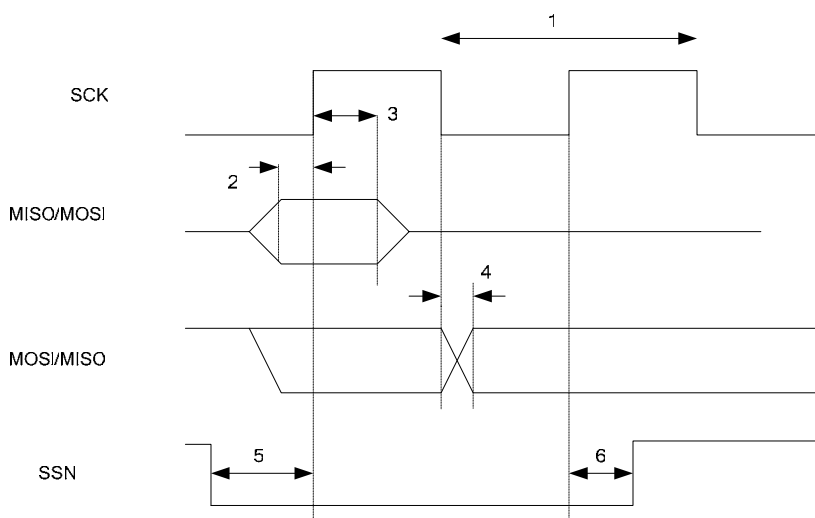

Figure 2: SPI AC Characteristics
| SCK period | | See section 13.13.3 | | ns | Master. See item 1 Figure 2 |
| SSN low to SCK | 2*t _{SYSCLK} | | | | See item 5 Figure 2 |
| SCK to SSN high | 30 | | | ns | See item 6 Figure 2 |
| MISO setup | 10 | | | ns | Master. See item 2 Figure 2 |
| MISO hold | 10 | | | ns | Master. See item 3 Figure 2 |
| SCK to MOSI | | | 25 | ns | Master. See item 4 Figure 2, load = 10 pF |
| SCK period | 100 | | | ns | Slave. See item 1 Figure 2 |
| MOSI setup | 10 | | | ns | Slave. See item 2 Figure 2 |
| MOSI hold | 10 | | | ns | Slave. See item 3 Figure 2 |
| SCK to MISO | | | 25 | ns | Slave. See item 4 Figure 2, load = 10 pF |